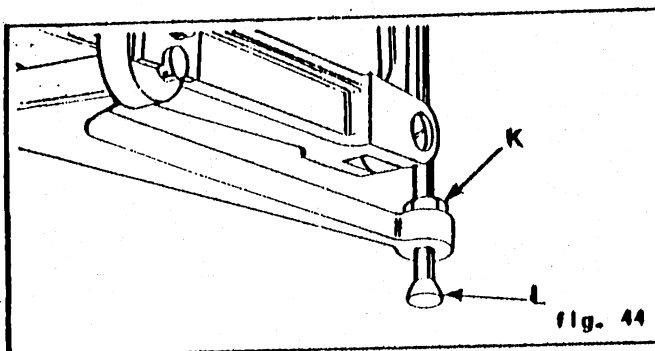

fig. 44
When the limit of adjustment provided by connection (L) is obtained, additional adjustment is provided as shown. Loosen screw (M) and raise or lower crosshead. The crosshead must not be allowed to bottom on the casting in any part of its stroke. After moving the crosshead, adjust again as in fig. 44.